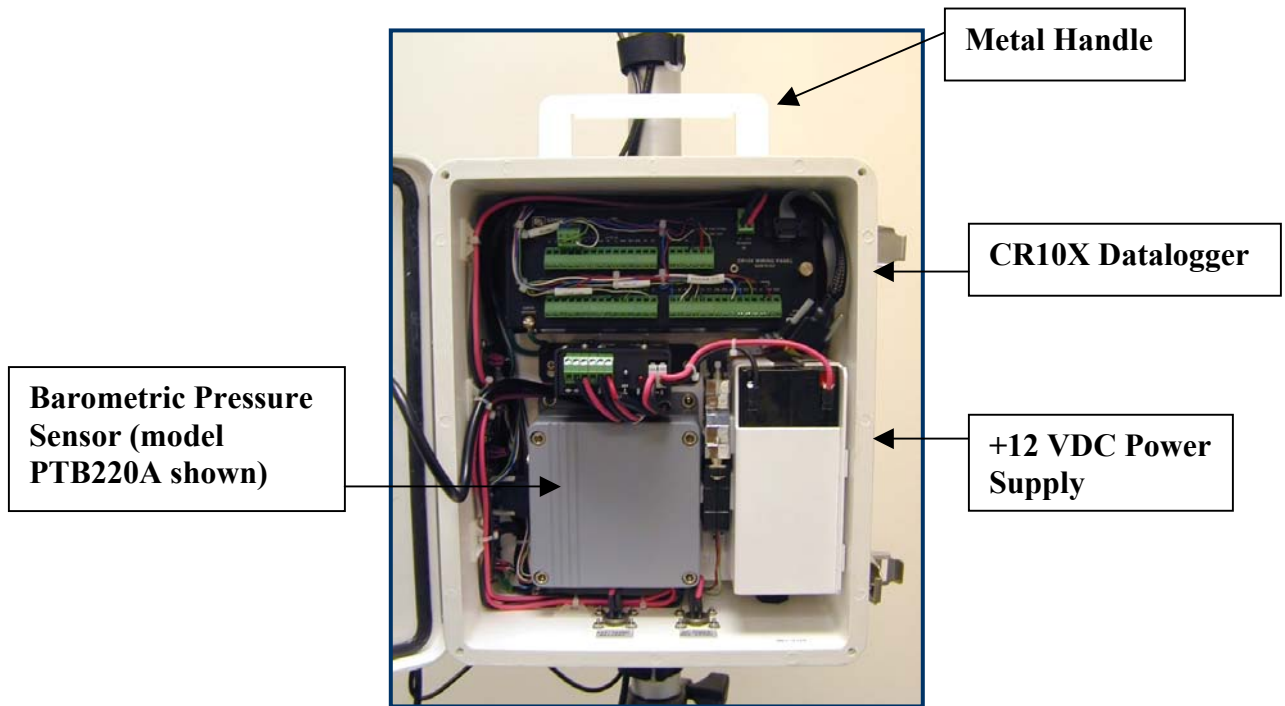

Figure 3.
- depress the spring loaded buttons (see Figure 3) and slowly rotate the compass section 360° twice while keeping the compass level during each revolution. Take about 1 minute for each revolution.